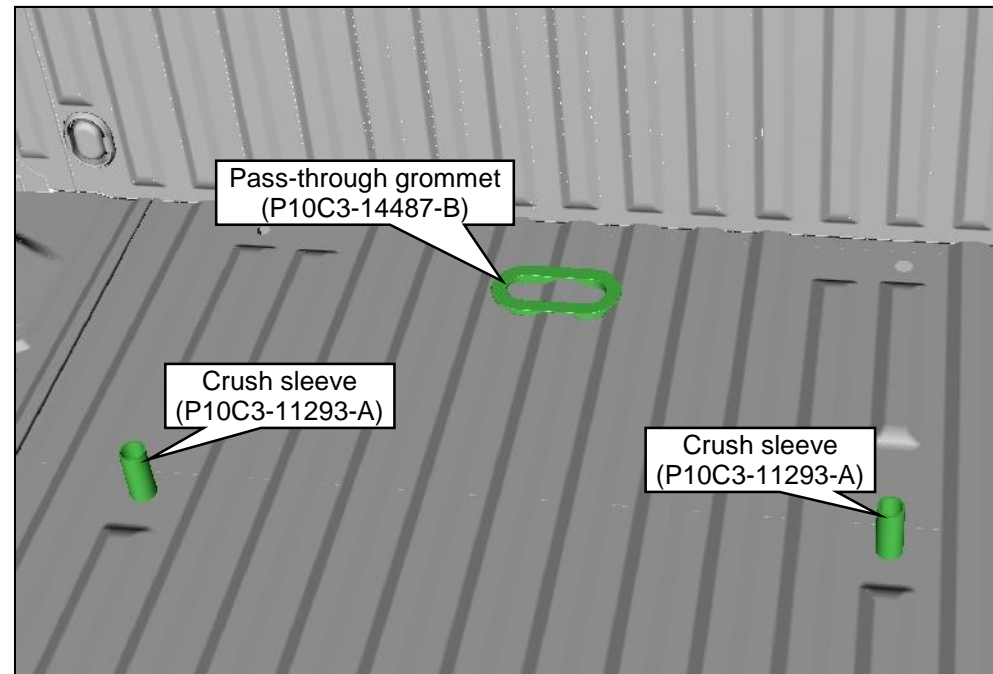

Figure 15.3 — 8' Bed
13. Install the bed pass-through grommet into the elongated hole in the bed. Use silicon sealant to adhere the grommet to the bed. **Figure 15.3.**
1. Trucks equipped with an 8' bed require two crush sleeves. Insert the crush sleeves through the 1-5/16" REAR OUTBOARD holes. **Figure 15.3.**